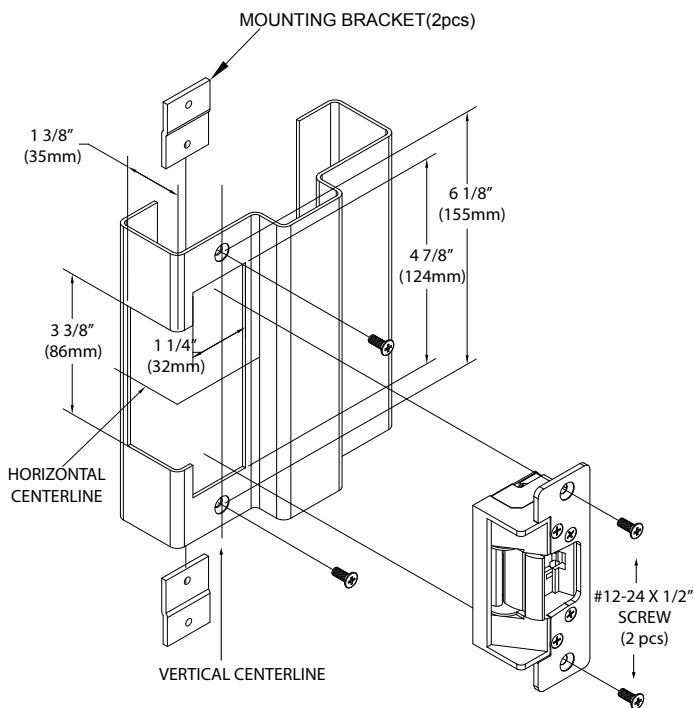

Figure 4.1 Hollow Metal Frame Installation (CX-ED1410)
**Option 1 Hollow Metal Frame Installation (Figure 4.1 & 4.2)**
- If the ANSI Frame jamb/gate does not match the electric strike size, refer to Steps 3 to 8 and Figure 4.1 or 4.2 to cut the jamb if applicable.